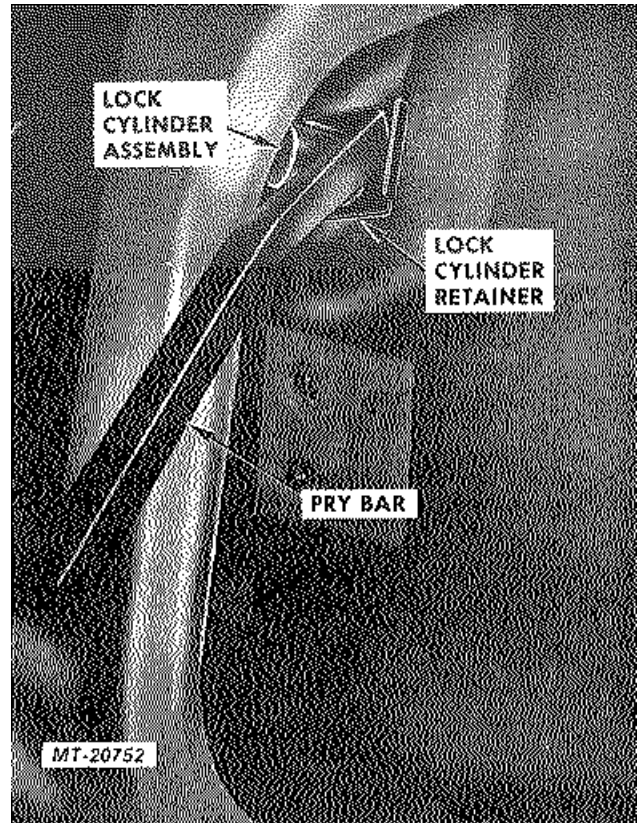

Fig. 25 Removing Lock Cylinder Retainer
Lock cylinder retainer can be removed without removing glass rear run channel. Channel removed in Fig. 25 for clarity.
3. Working through door access opening pry lock retainer from lock cylinder assembly (Fig. 25) with a small pry bar or screwdriver.